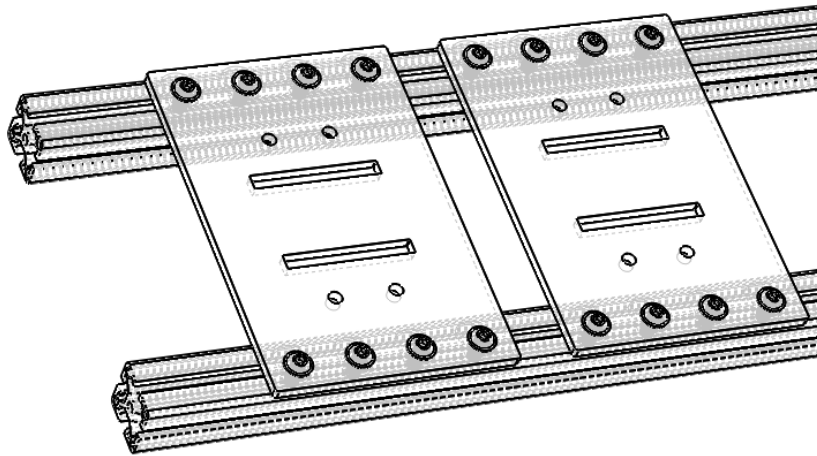

Fig. 3.9: Two Fixture base plates (#KGTP) fixed on the two beams (#HJXQ) with end feed fasteners (#TEBK)
- ☐ Rotate the end-feed fastener screws (#KEDB) into the female end-feed fastener part through the fixture base plate. Adjust to an appropriate position for two plates, and then tighten all 16 screws, as shown in Fig. 3.9.